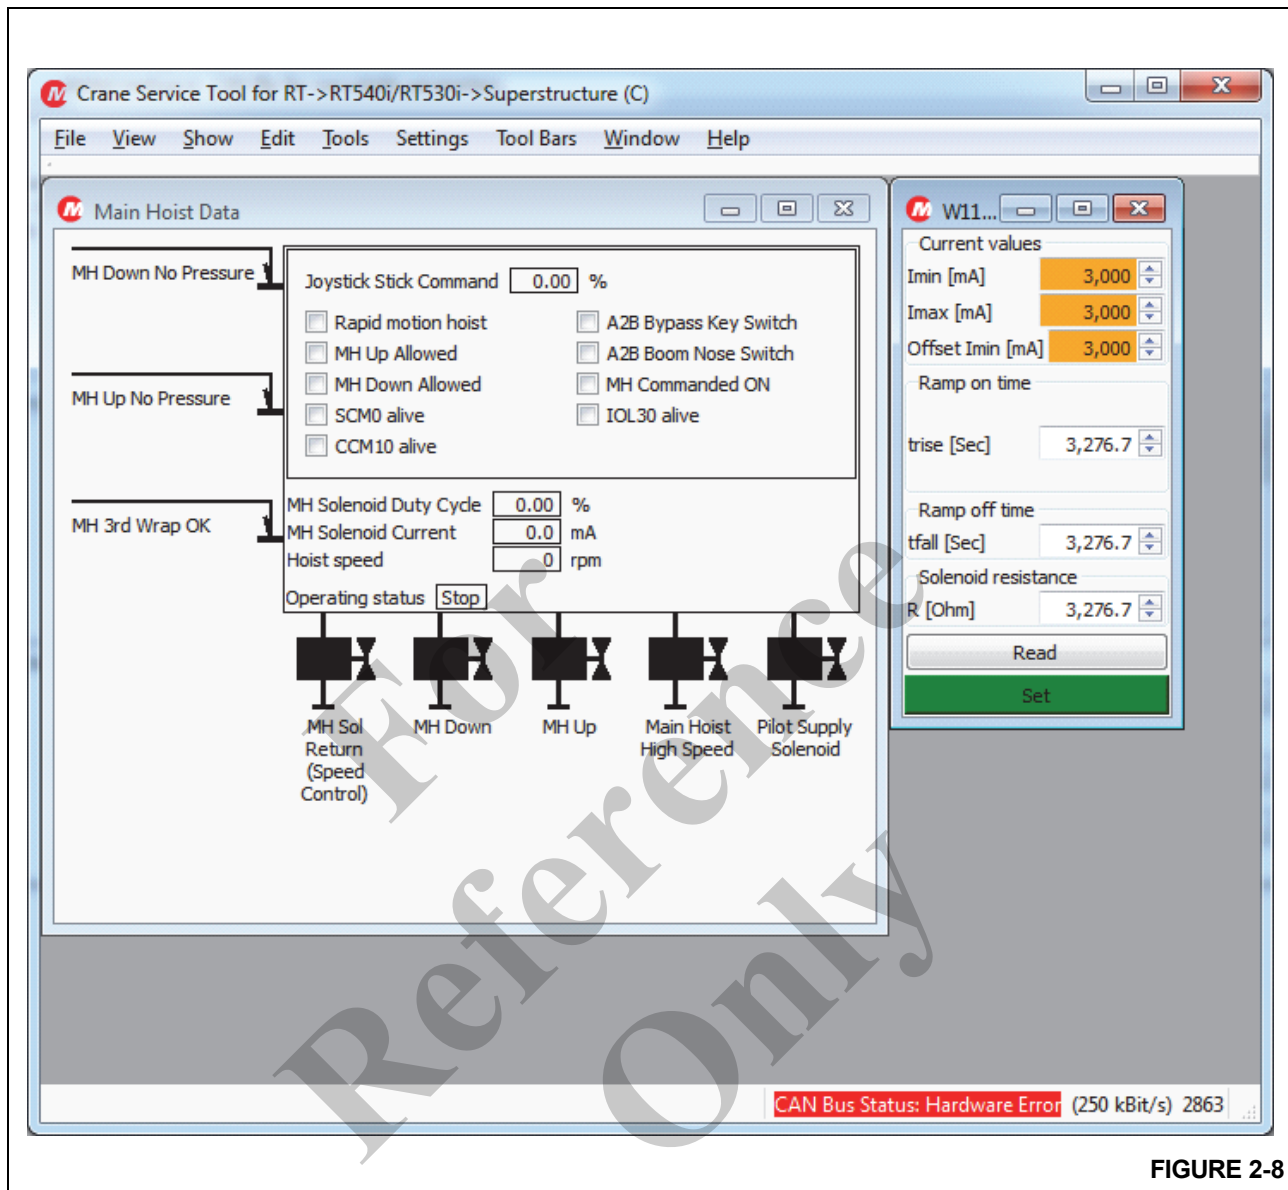

FIGURE 2-8
1. Attach laptop to diagnostic connector in cab and make sure CAN C is selected (position 3 on CAN selector knob) (Figure 2-8).